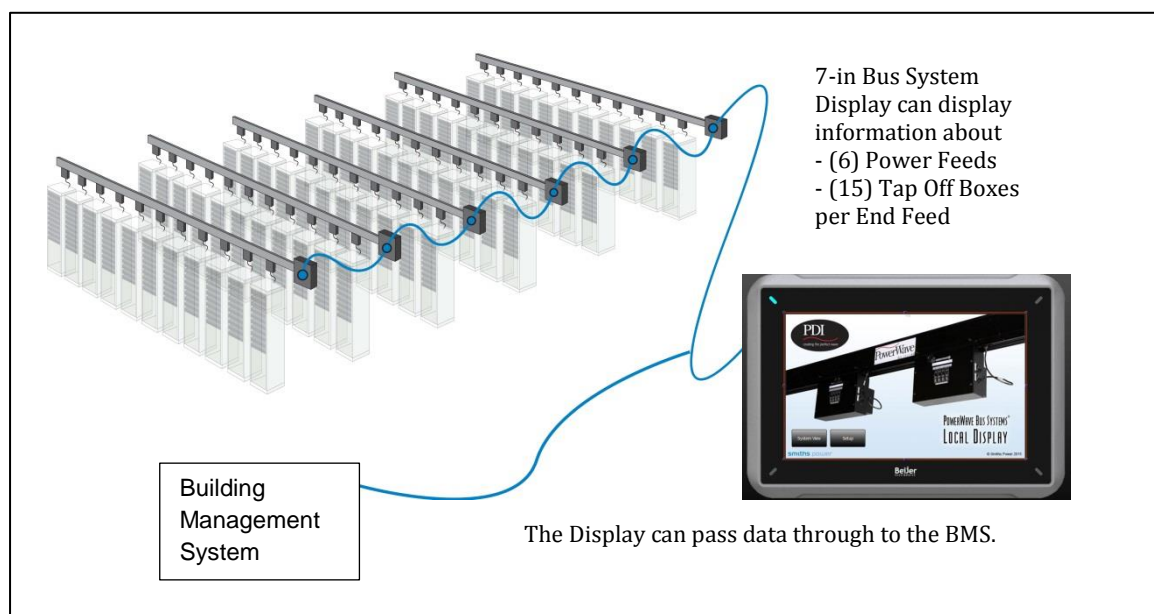

Figure 18 7-in Local Display with Six Bus Runs
- The Local Display can display power information for up to (6) PowerWave 2™ Bus System bus runs (Figure 18).
- Each monitored bus run can have up to (1) power feed and up to (15) Tap Off Boxes per power feed, for a total of (96) devices for a single Local Display. (Note: All power feeds are designated “end feeds” in this application. “End feed” is used for both Standard End Feed and Center Feed.)